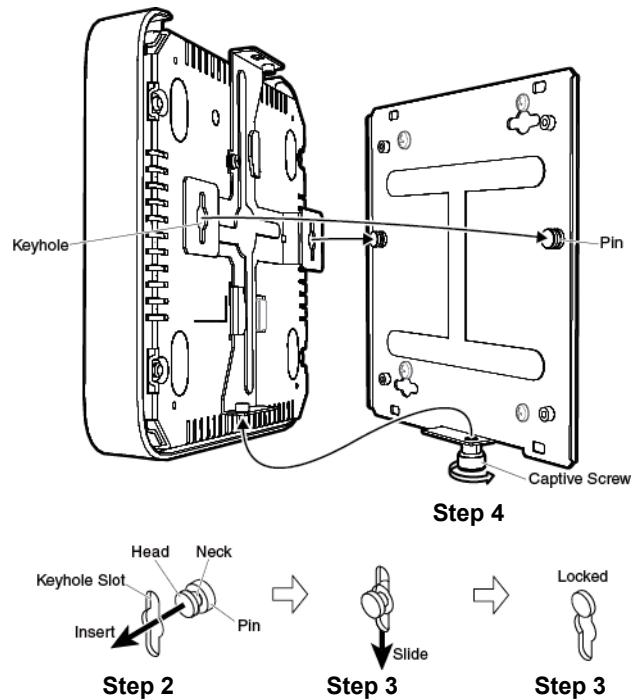

Figure 10. Attaching Access Point to Base Plate
2. Insert the two base-plate pins into the circles of the keyhole slots, as shown in Figure 10.
3. Slide the access point downward to lock the necks of the base-plate pins in the slots, as shown in Figure 10.
4. Fasten the access point to the base plate by turning the base-plate captive screw clockwise using a Phillips-head screwdriver, as shown in Figure 10 on page 33.